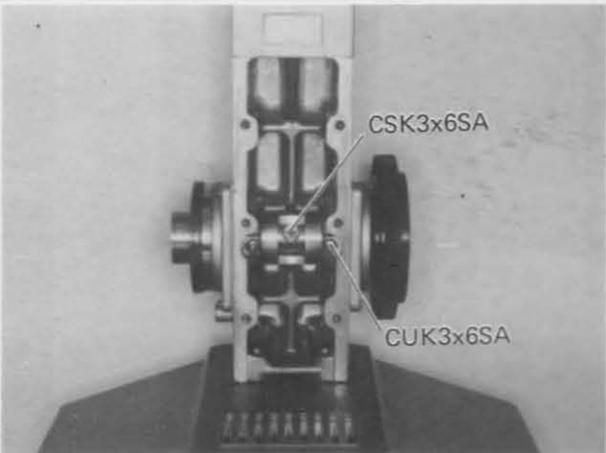

Fig. 4-4
- 4-1-2 Reassemble the pinion bearing with Arm AA819500 by using two Screws CUK3x6SA and Screw CSK3x6SA. (See Fig. 4-4)